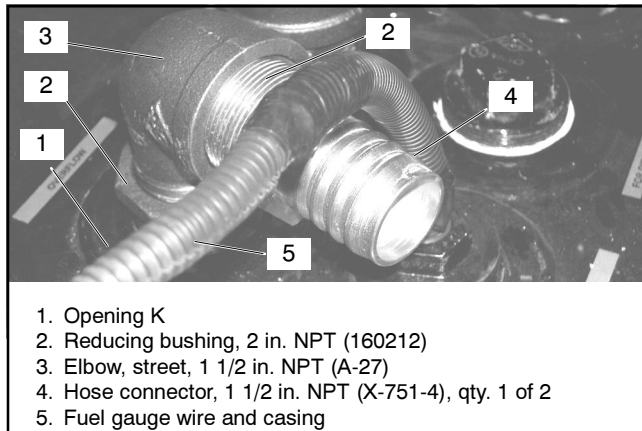
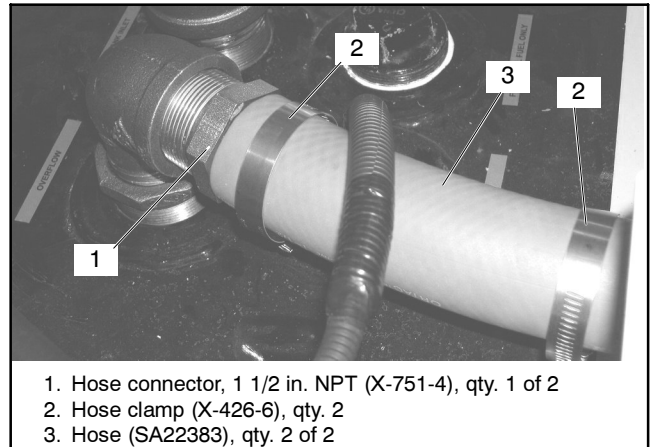

Figure 17 Secure Subassembly into Opening K
Figure 19 Subassembly for Hose Connections on Opening K
Note: Ensure fuel gauge wire casement is over the subassembly for opening K. See Figure 17.
- 2.2.4 Attach 2 in. NPT reducing bushing 160212 to opening K on top of subassembly fuel tank. Tighten securely. See Figure 17.
- 2.2.5 Slide hose SA22383 over 1 1/2 in. NPT hose connector X-751-4. See Figure 17.
- 2.2.7 Remove hose SA22383 from 1 1/2 in. NPT hose connector X-751-4 and cut to required length. See Figure 17.
- 2.2.8 Apply pipe sealant to 1 1/2 in. NPT hose connector X-751-4. See Figure 17.
- 2.2.11 Slide two hose clamps X-426-6 over fuel hose SA22383. See Figure 19.
- 2.2.12 Slide hose SA22383 over 1 1/2 in. NPT hose connector X-751-4. See Figure 17 and Figure 19.
- 2.2.15 Tighten both hose clamps X-426-6 to both 1 1/2 in. NPT hose connectors, securely. See Figure 19.